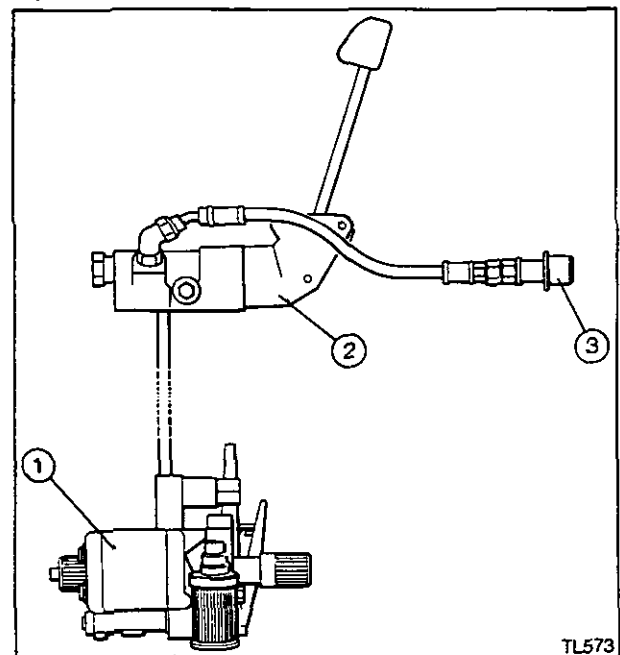

Figure 14
2. Figure 14. Oil from the linkage pump (1) via a selector valve (2) and trailer tipping pipe (3) – single acting cylinders only. The lower links will be locked when the Selector valve is moved to the external position.